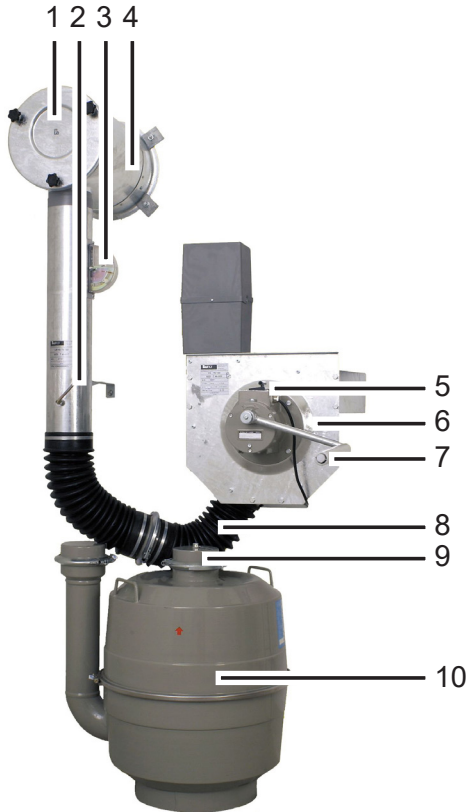

Figure 3 Components for operation
- ▶ *If not stated otherwise, the position numbers refer to those given in Chapters 4.1 and 4.2 in Figure 3.*